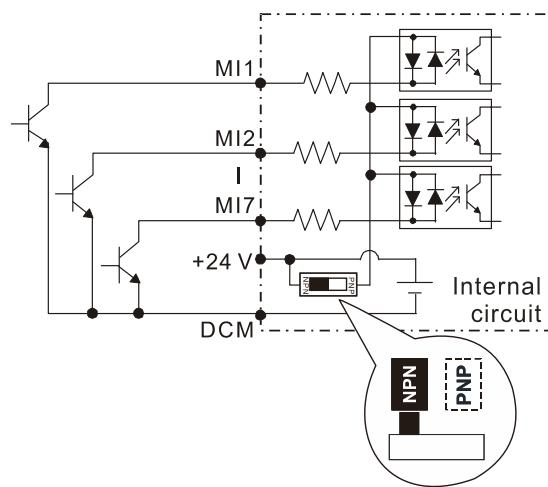

Figure 6-2
- When the photo coupler uses the internal power supply, the switch connection for Sink and Source modes shows as Figure 6-2 and Figure 6-3: MI-DCM: Sink mode; MI-+24 V: Source mode.